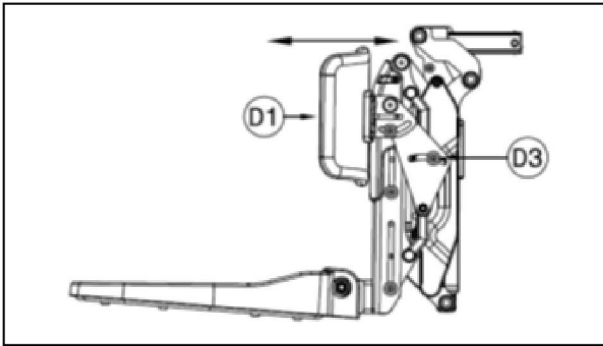

Fig 7
(1) Calf-pad depth adjustment.
- (a) Use Allen key to loosen the screw <D3>. (Fig 7)
- (b) Adjust the calf-pad <D1> to desired position. (Fig 7)
- (c) Use Allen key to tighten the screw <D3>. (Fig 7)